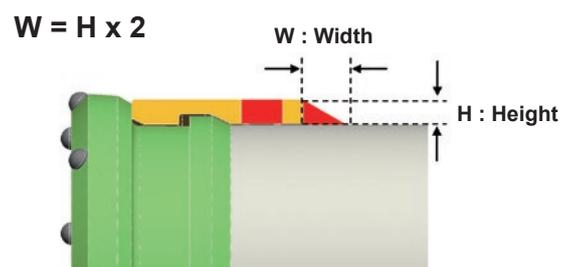

Figure 8 : Fillet welding
4. When welding on the circumference, normally three passes are recommended. Take sufficient time to weld the casing using the correct welding rod. The width (W) of the fillet weld should be duplicate of the height (H) of the fillet weld ( $W = 2H$ ). **See Figure8.**